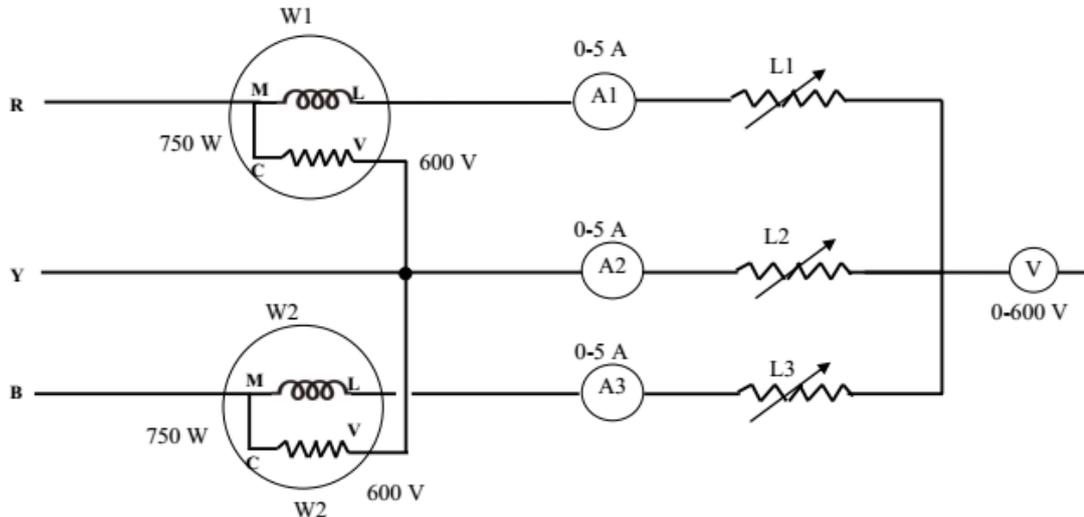

Figure 1
- Make the connections as per the circuit diagram in Figure 1 above.